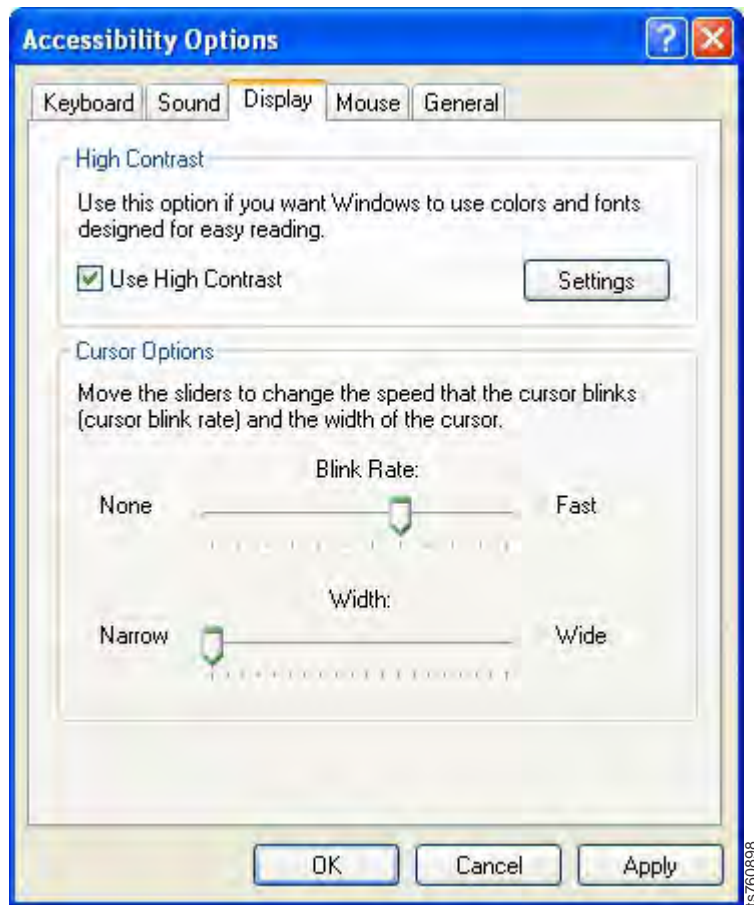

Figure 100. Display tab
3. In the **High Contrast** area of the **Display** tab, select the **Use High Contrast** check box, as shown in Figure 100 on page 136: